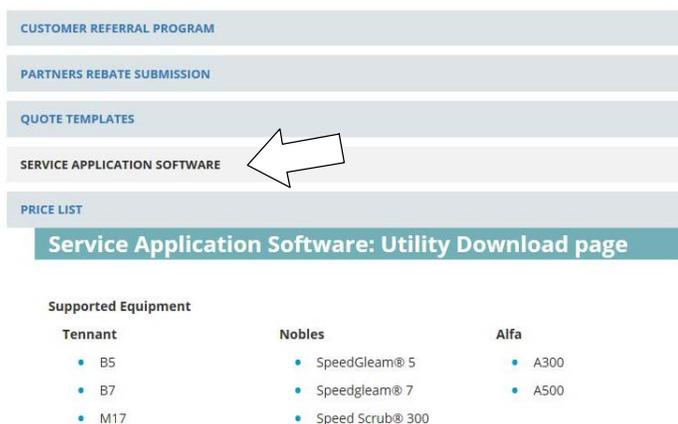

Fig. 19
3. Click on the “SERVICE APPLICATION SOFTWARE” link as shown below (Figure 19).